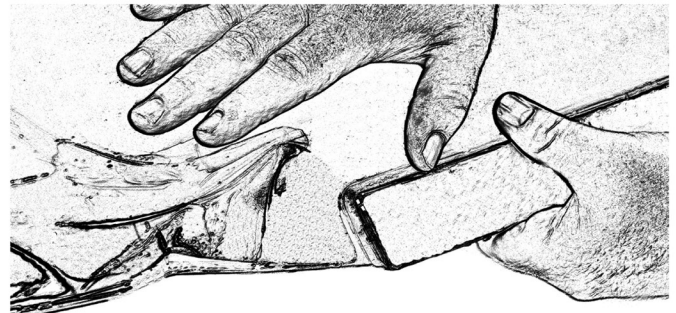

Figure 3
18. If the hood has a vertical groove between the center and first alignment point, proceed to step 20. Otherwise, place one hand on top of the kit and move the part into position at the alignment point, ensuring a 1/16-inch gap as shown in figure 3. The kit may require stretching to reach the alignment point. This is normal and is required to alleviate excess material around the contours of the hood. If the part will not move freely to the alignment point, lift the part and apply more slip solution.